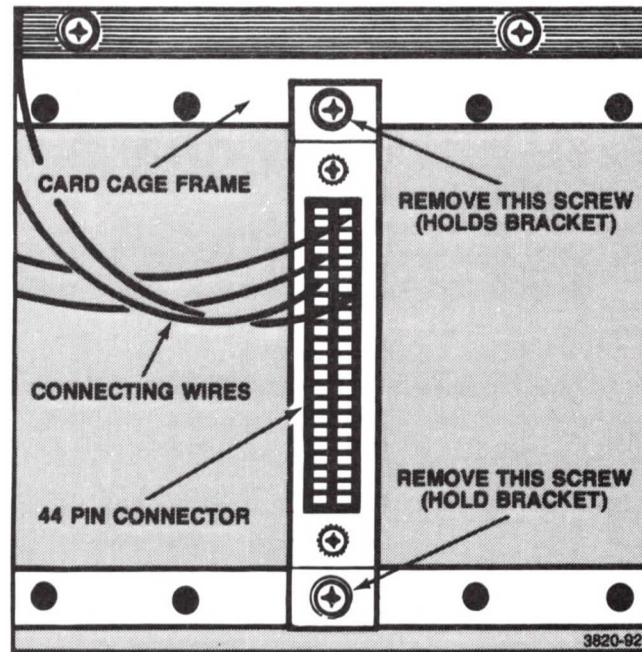

Figure 11-16. 44 Pin Connector and Bracket.
8. Remove any 44 pin buckets connected to the rear of the card cage. Be sure to disconnect the bracket which is attached to the card cage and not just the 44 pin connector. See Figure 11-16.